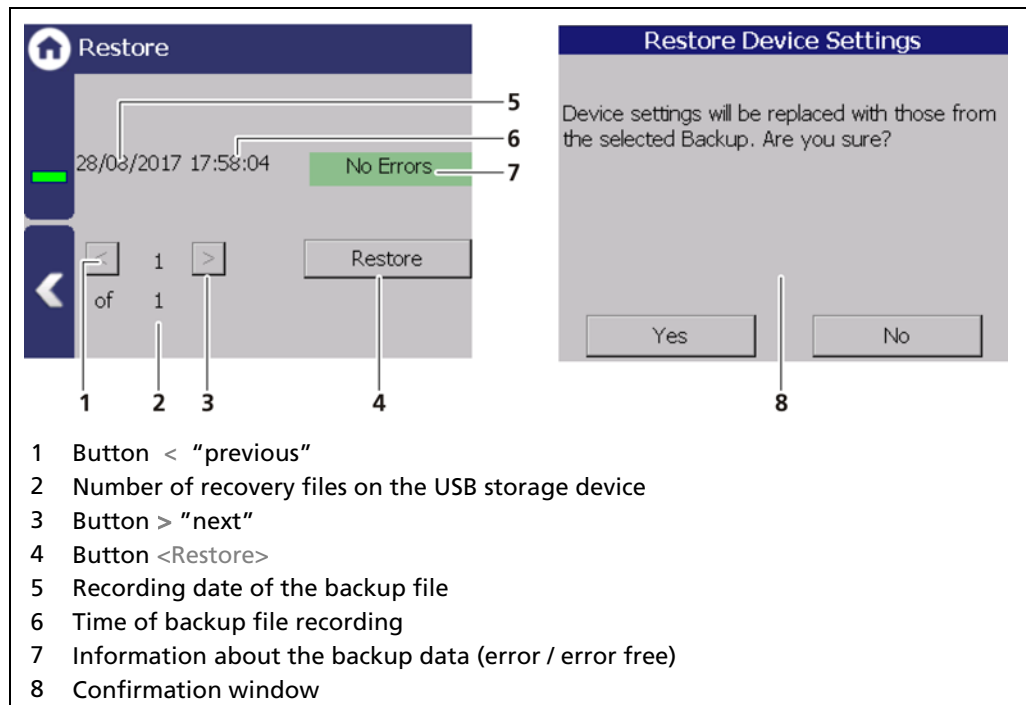

Fig. 117 Restore
2. Select the backup file with the buttons (Fig. 117, item 1,3)
- ▶ The date and time of the backup is displayed (Fig. 117, item 5, 6). Only error-free (Fig. 117, item 7) backup files can be loaded.
3. Click on the button "Restore" (Fig. 117, item 4).
4. A confirmation message (Fig. 117, item 8) appears.